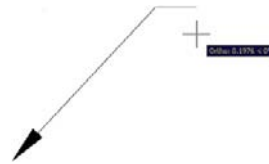

FIGURE 6.16
- Step 4.** Turn Ortho back on and draw a short line to the right, clicking when done; this is your *horizontal landing*, as seen in Figure 6.16.